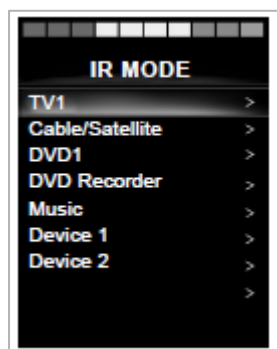

Figure 37
6. Left or right joystick deflections will then activate the highlighted IR command (figure 37).